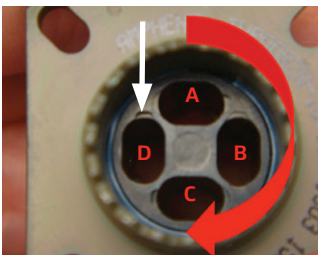

Figure 68: Rear view with insertion orientation
- b. Align the green/green-white pair’s orientation keyway (i.e., the beige key), and insert it in position A, being careful not to insert it at an angle (Figure 68).